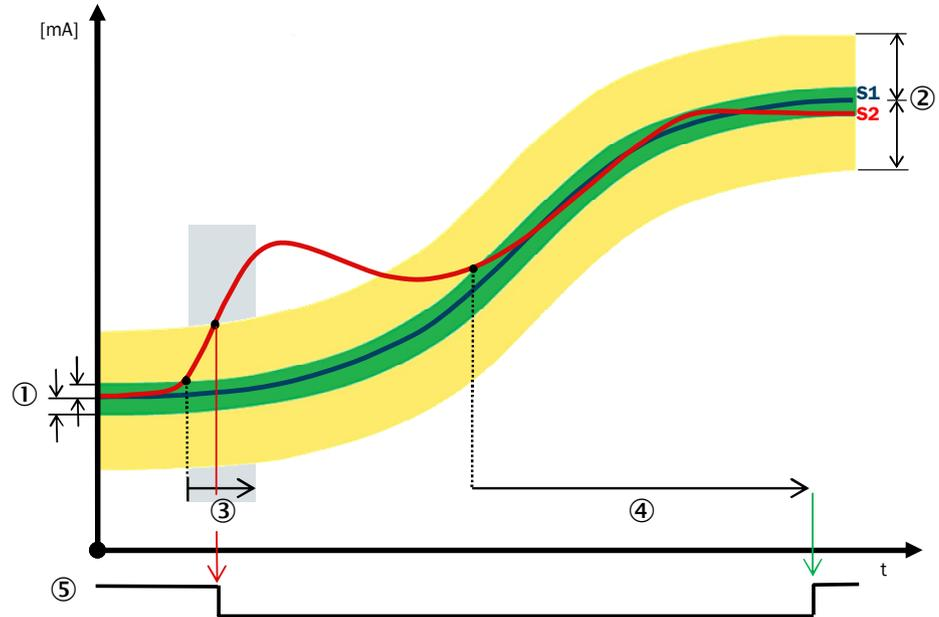

Figure 319: Exceeding the limited permissible increased difference
- The measured values from sensor AI1 and sensor AI2 deviate from one another by **more than the Limited permissible increased difference** (figure 319).